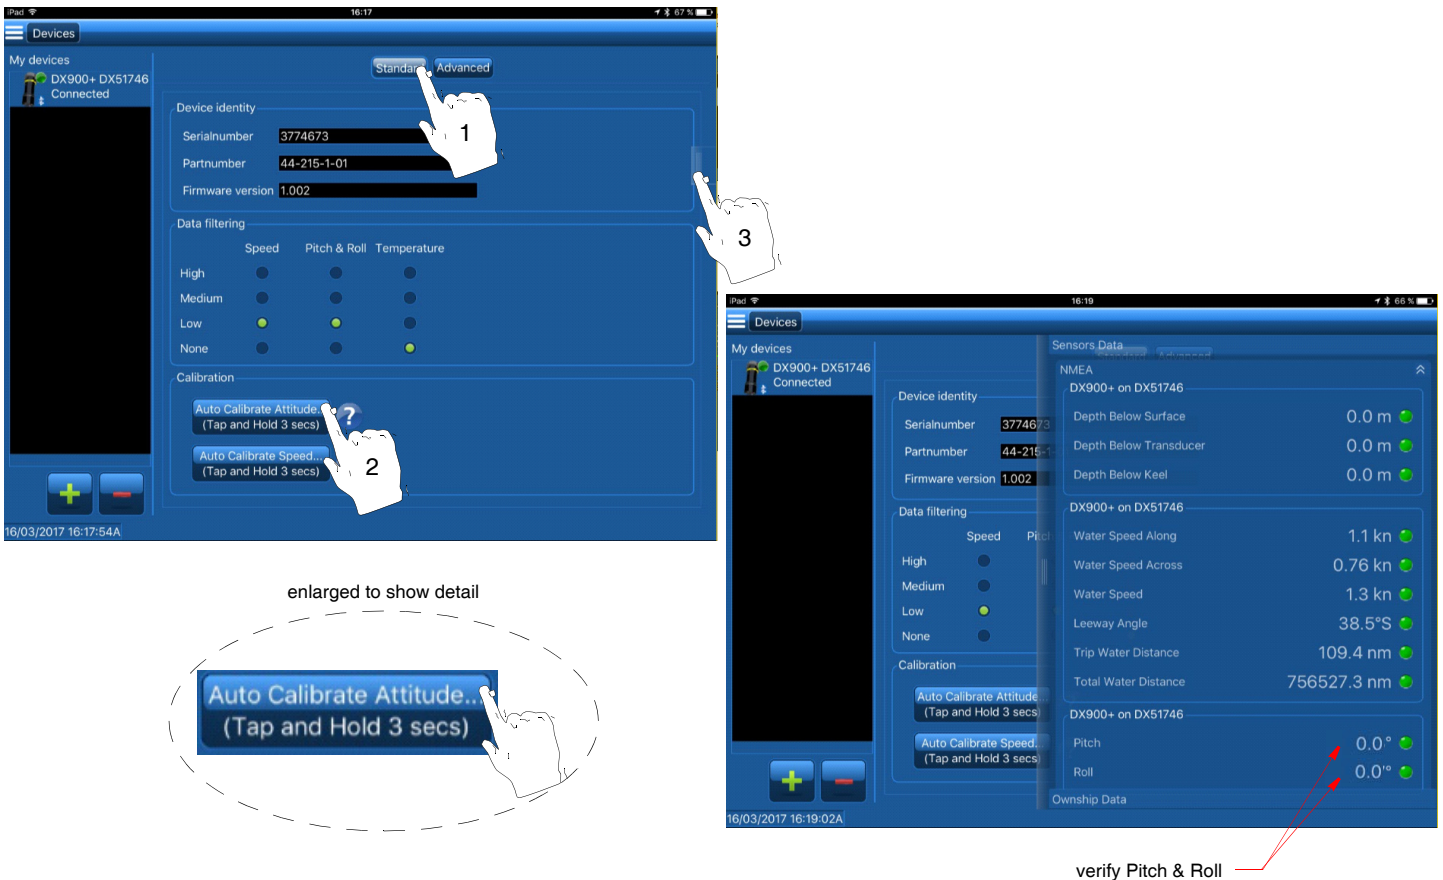

Figure 9. Auto-calibrate Attitude
3. Go to the *Calibration* section (Figure 9).